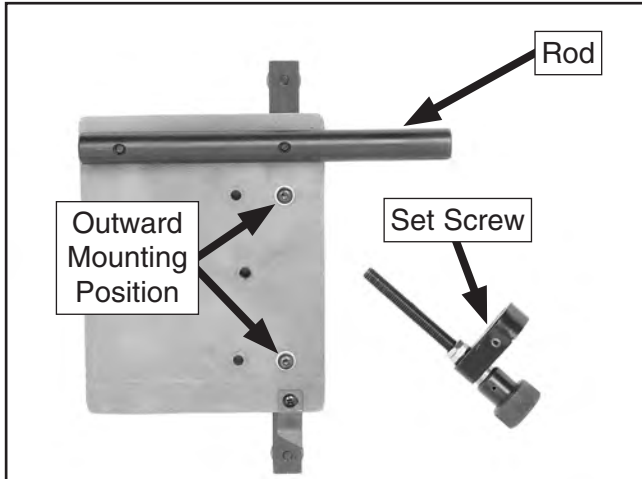

Figure 10. Guide bar mounted in the outward position.
3. Loosen the set screw on the micro-adjust collar, then remove the micro-adjust assembly from the rod, as shown in **Figure 10**.
4. Remove the cap screws and washers securing the guide bar to the base plate, then re-install the bar in the outward mounting position, as shown in **Figure 10**.